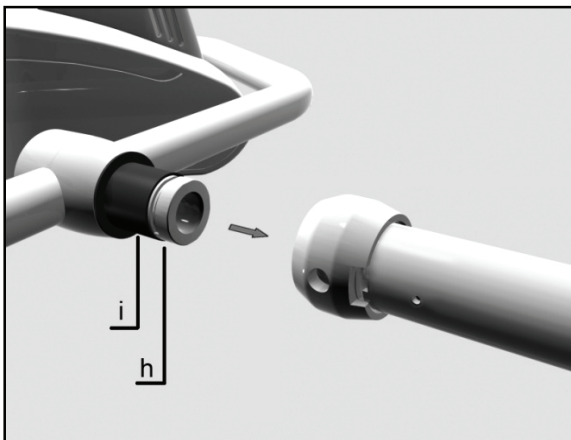

Figure 3
5.  Make sure the plastic bearing (i) is on the yoke and there is grease in the groove (h). (The connectors are not shown in figure 3.)